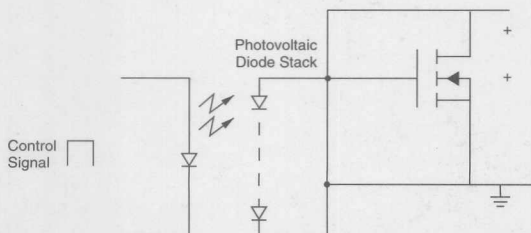

Figure 5: Photovoltaic Drive Scheme
- Solid-state relays utilize optically-isolated drive schemes for isolation purposes. Figure 5 shows a commonly-used photovoltaic drive scheme. Usually a low voltage is available to turn on the FET to meet the relay's assured  $R_{DS(ON)}$  specifications. Precautions are taken to avoid excessive drive since the charge applied during turn-on must be quickly discharged during turn-off. Turn-off circuitry is not shown in this simplified schematic.